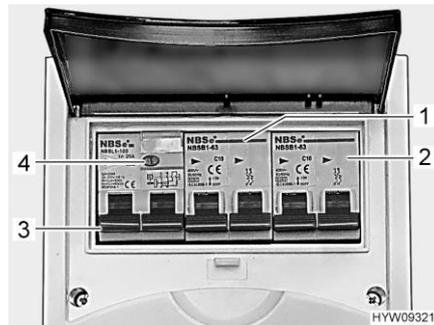

Fig. 107 Safety cutout and FI-switch (230 V fuse box)
A fault current protection switch (FI-switch) (Fig. 107,3) in the fuse box protects the complete vehicle from fault current (30 mA).
The downstream safety cut-out (10 A) (Fig. 107,1) secures the 230 V sockets, the transformer/rectifier, the auxiliary charging unit and the refrigerator. For vehicles with special equipment, e.g. roof air conditioning unit, the device is protected by an additional safety cut-out (16 A) (Fig. 107,2).
- When the vehicle is connected to the 230 V power supply, press the test button (Fig. 107,4). The fault current protection switch (FI-switch) must be activated.